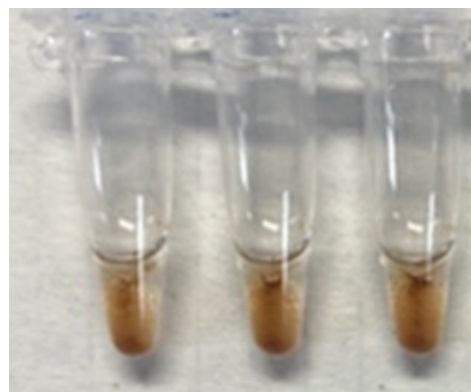

FIGURE 10
36. Remove tubes from 4°C incubation and quick spin to collect liquid. Beads may settle overnight (**Figure 10**). This will not impact results.